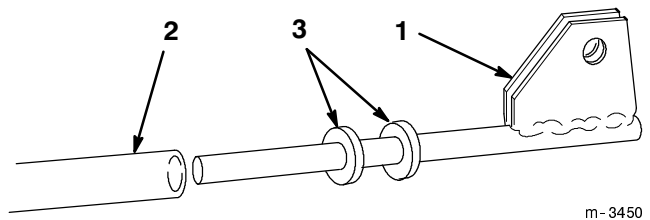

Figure 5
4. Add two 3/4 in. (19 mm) washers onto the end of the lift rod, then slide it into the lift tube (Fig. 5).